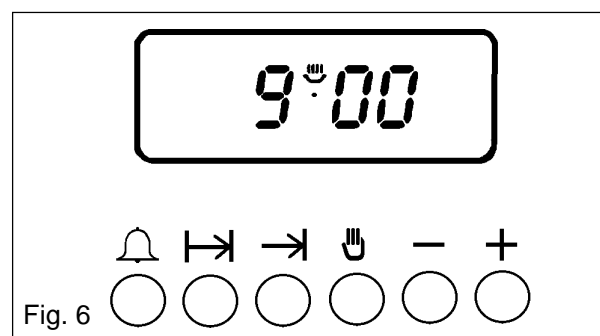

Fig. 6
- Ensure the electricity supply is switched ON and that the correct time of day is displayed, e.g. 9.a.m. as Fig. 6.